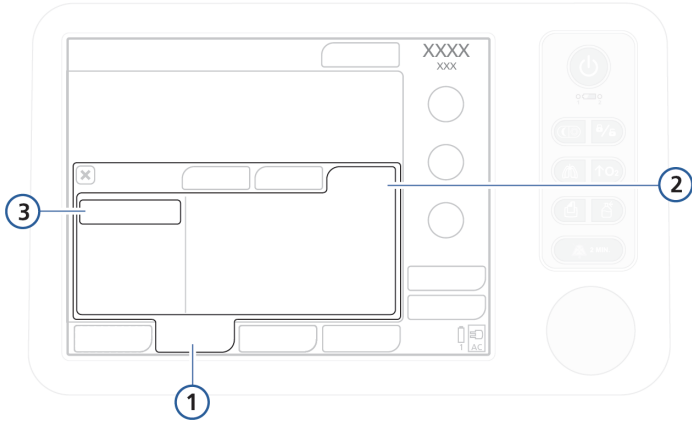

Figure 3-8. Data transfer window 1
2. Open the Utilities -> Data transfer window (Figure 3-8), and select **Export logs**.